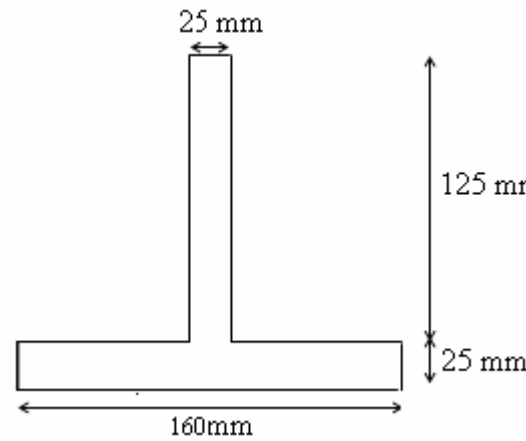

Figure 1:
1. Determine the width of the inverted T-beam section shown in figure 1. So that the normal stresses at top and bottom of the beam will be in the ratio 3:1 respectively. [15]